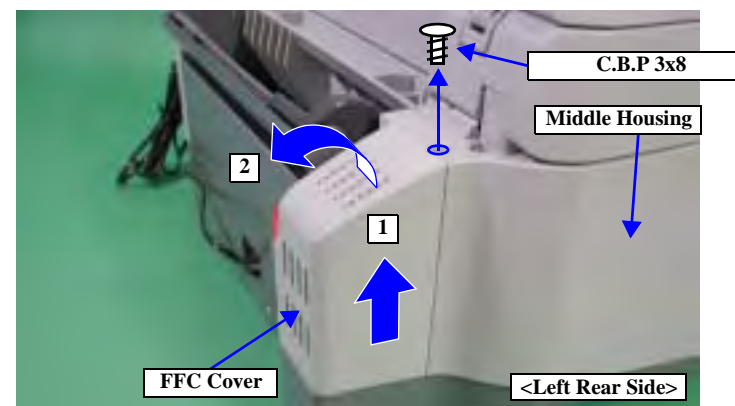

Figure 4-2. Scanner Unit Removal 1
2. Follow the order shown in Figure 4-2 to remove the FFC Cover from the Middle Housing.